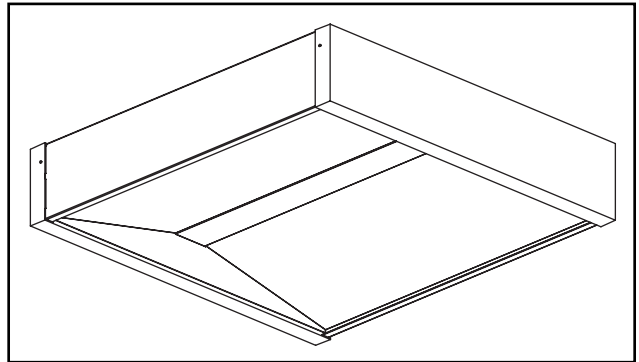

Figure 5.
5. Reattach the endplate to the surface mount kit. The end cap only attaches in one direction. Ensure the endplate snaps are properly engaged. Attach with #10 screws if necessary. (see Figure 5)